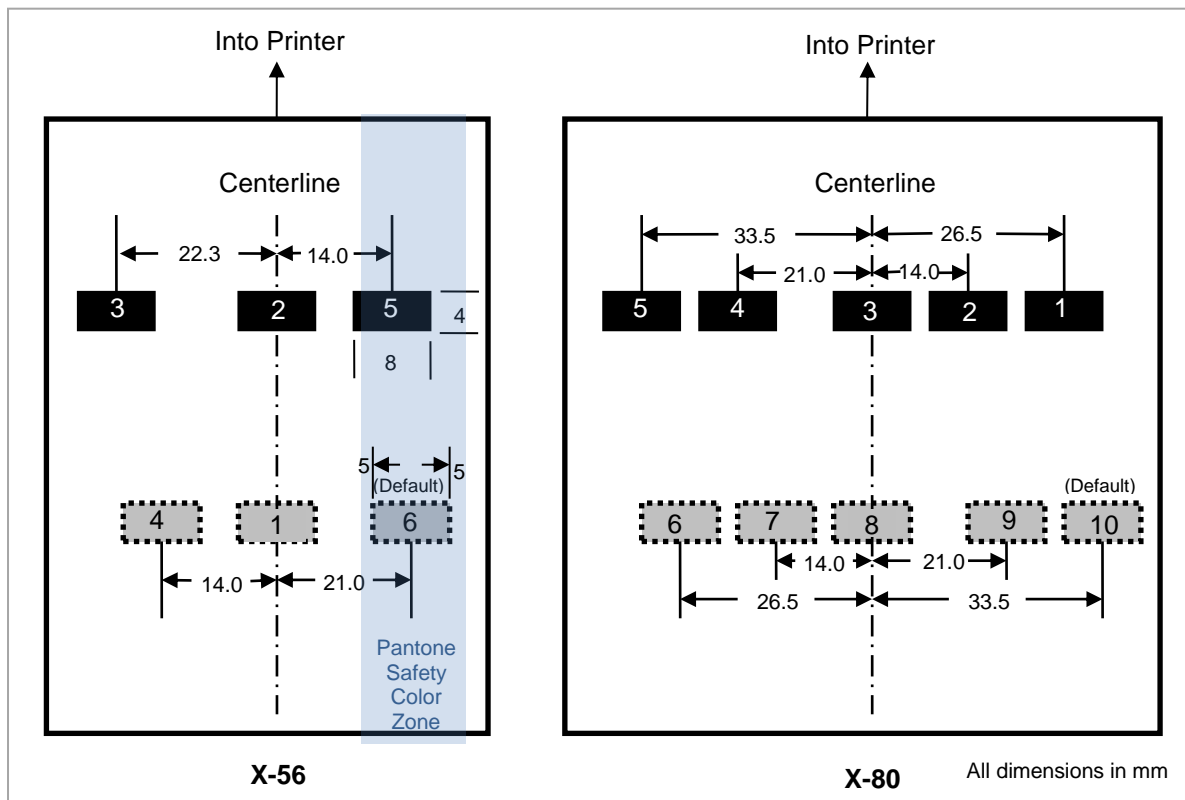

Figure 13 – Sensor Positions (top view on thermal layer)
The Black Mark (BM) sensor of the eXtendo® printers can be located in numerous positions during manufacturing, both above and below the paper. Figure 13 represents X-56 and X-80 paper, and show where the BM should be located in order to be detected with the BM sensor of your eXtendo® printer. Grey/dotted areas reference locations on the back (bottom) side of the paper. The number inside each black mark area is the BM Position number and refers to the printer's matchcode that you would see on quotations, invoices etc (e.g. X56-S-F-06-J.. here an X-56, Serial Interface, BM sensor at location 6).
In order to avoid accidental interpretation of preprinted information as the black mark, it's necessary to keep the area 5 mm to the left and right of the BM edges for the entire length of the printout free of all printing except Pantone Safety Colors with a print contrast (PCS) value of under 15%, as measured by MacBeth RD924. The BM itself must have a print contrast over 80%, per DIN 66223, measured with MacBeth PCM2, Filter B. This applied to the side of the printout where the BM is located, regardless of whether it is the thermal-coated side or not. The blue area in Fig. 13 shows this zone for the default sensor position 6 of the X-56.